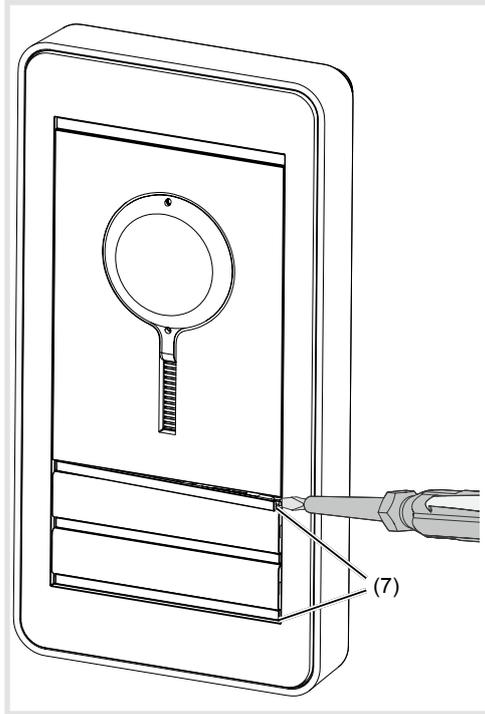

Figure 18: Removing cover strips
- Lever open the top and bottom of the cover strips (7) and remove them (Figure 18).